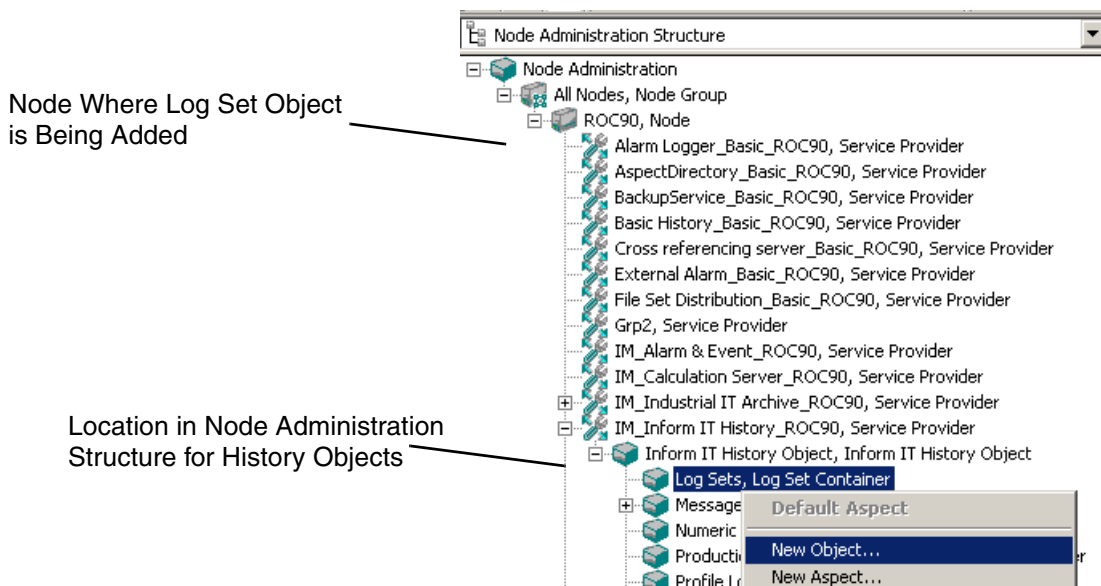

Figure 88. Adding a Log Set in the Node Administration Structure
2. Navigate to and expand the object tree for the node where the log set is to be added (for example, ROC90 in Figure 88).